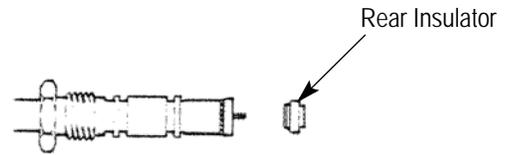

Figure 6
1. Slide the rear insulator over the center conductor until it butts against ferrule. Refer to Figure 6.